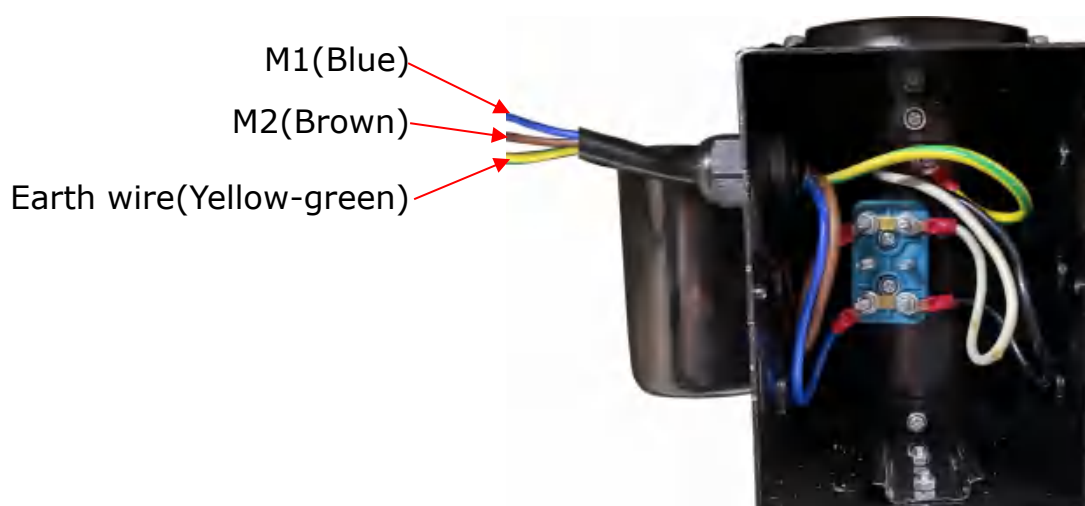

Fig. 46
6.2 220V Wire connection of hydraulic power unit (See Fig. 46).